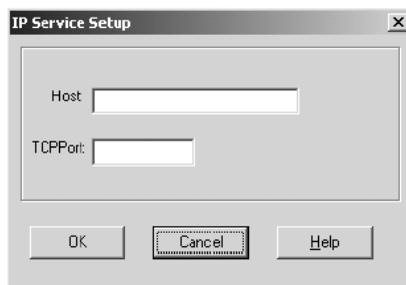

Figure 22: IP Service Setup Dialog Box
3. Click the **Add IP** button. The IP Service Setup dialog box appears (see Figure 22).